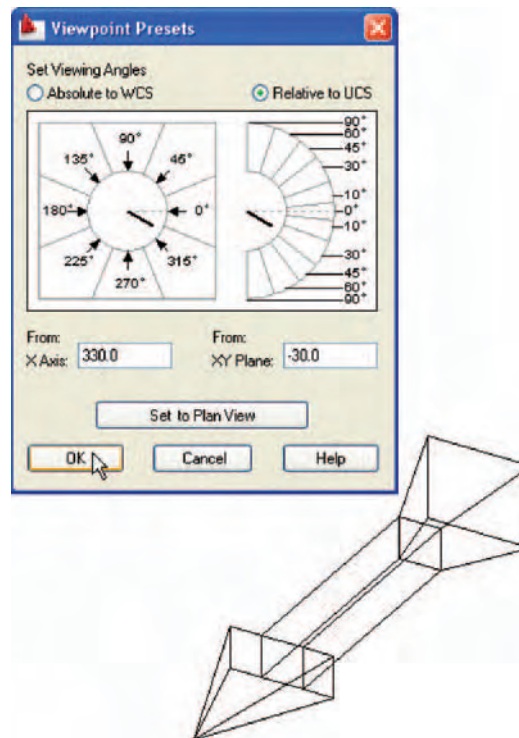

Fig. 14.34 Example – Viewpoint Presets
3. The 3D model takes up the viewing position indicated by the two angles (Fig. 14.34).
1. Construct the triangular outline shown in Fig. 14.34 using the **Polyline** tool. Make sure the pline outline is placed at right angles to the bottom